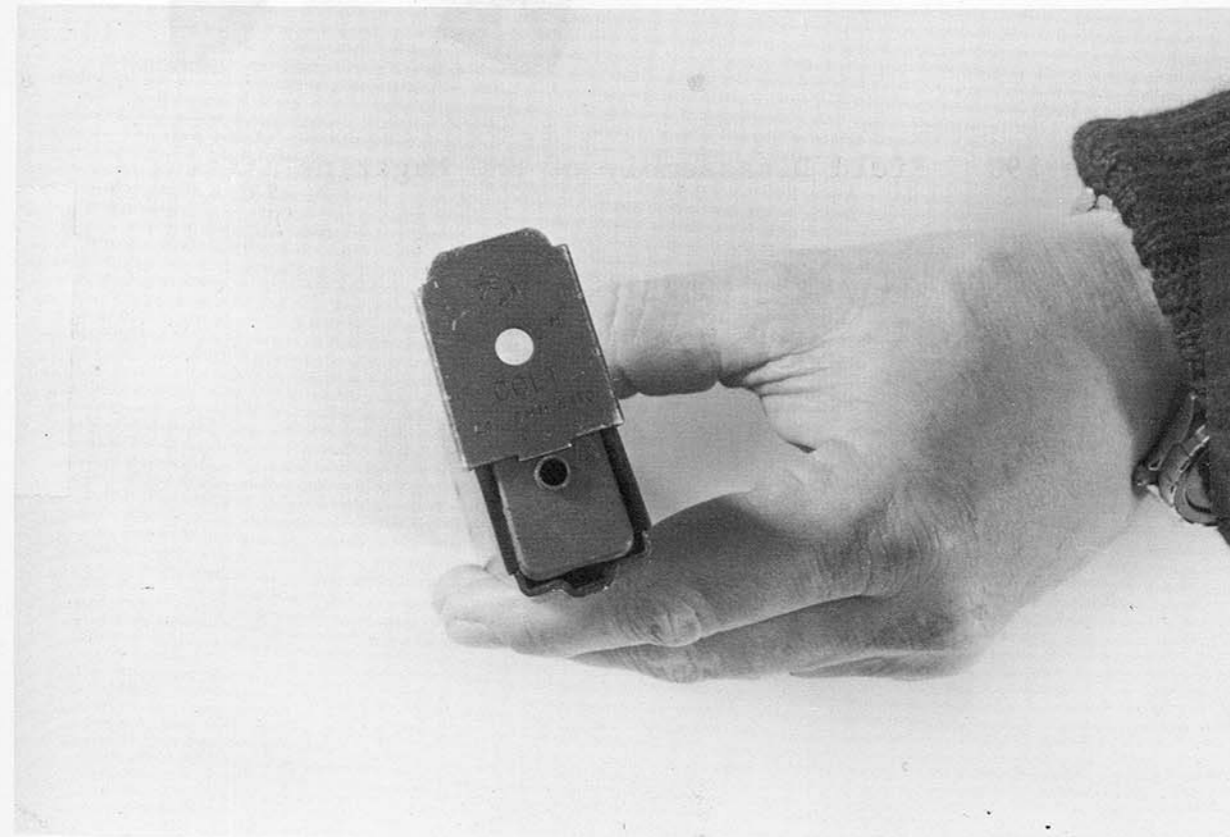

Figure 19B. Slide Magazine Base
2. Slide magazine base plate towards the front of the magazine. Figure 19B